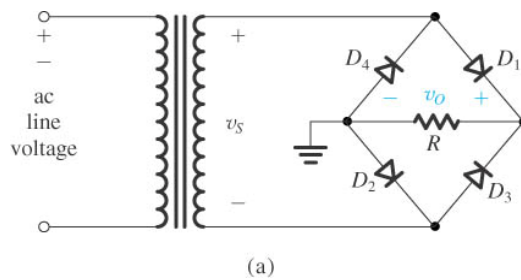

Figure 5.23: Circuit of the bridge rectifier.
- Figure 5.23 shows another implementation of full-wave rectifier.